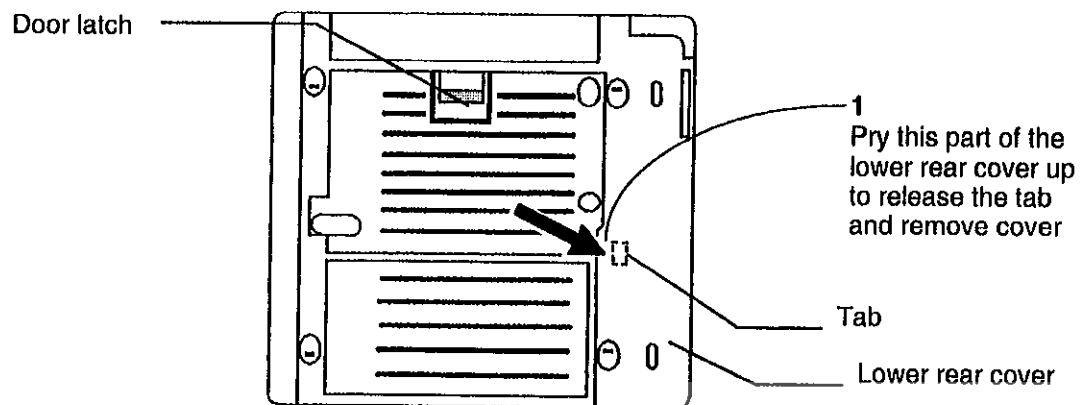

Figure 2. Releasing the Tab to Remove the Lower Rear Cover
3. Remove the four (4) screws.
4. (Figure 2). Release the tab on the cover with a small screwdriver, and remove the lower rear cover